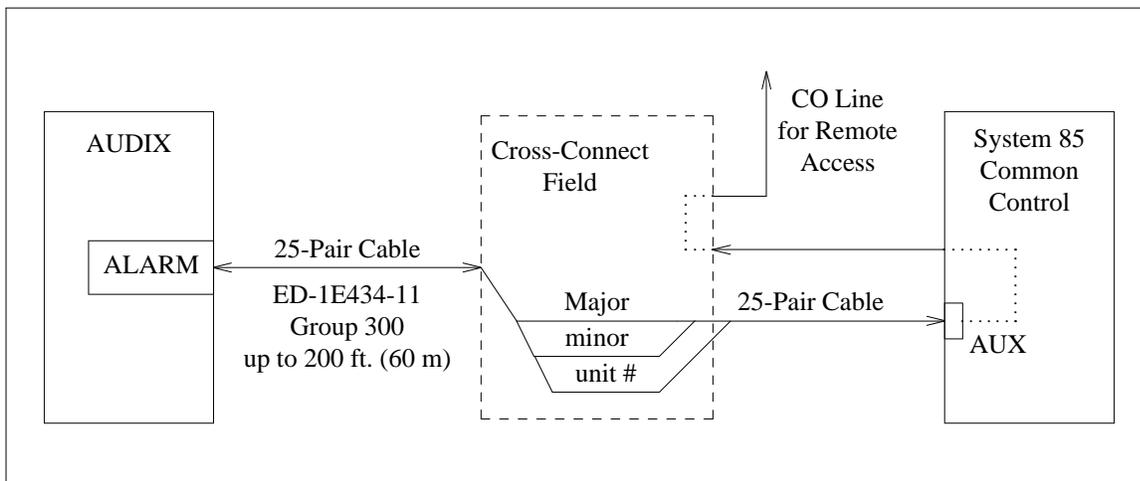

Figure 5: AUDIX System 85 Alarms Link
- Alarms link connecting AUDIX to the switch’s alarm-reporting facilities (recommended for all systems). See figure 5.
A 25-pair cable up to 200 ft (60 m) in length attaches the AUDIX ALARM connector to existing switch-alarm facilities at the cross-connect field (see figure 5). The total length of the connection from the ALARM port to the switch’s alarm facilities may be up to 4,900 cable ft (1,493 m). However, the wiring should *never* be run outside of the building.